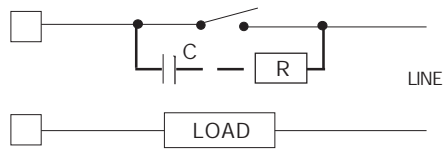

Fig. 12 EXTERNAL SWITCH IN SERIES WITH THE INTERNAL CONTACT
The same problem may occur when a switch is used in series with the internal contacts as shown in Fig. 12.
In this case it is recommended to install an additional RC network across the external contact as show in Fig. 12 The value of capacitor (C) and resistor (R) are shown in the following table: